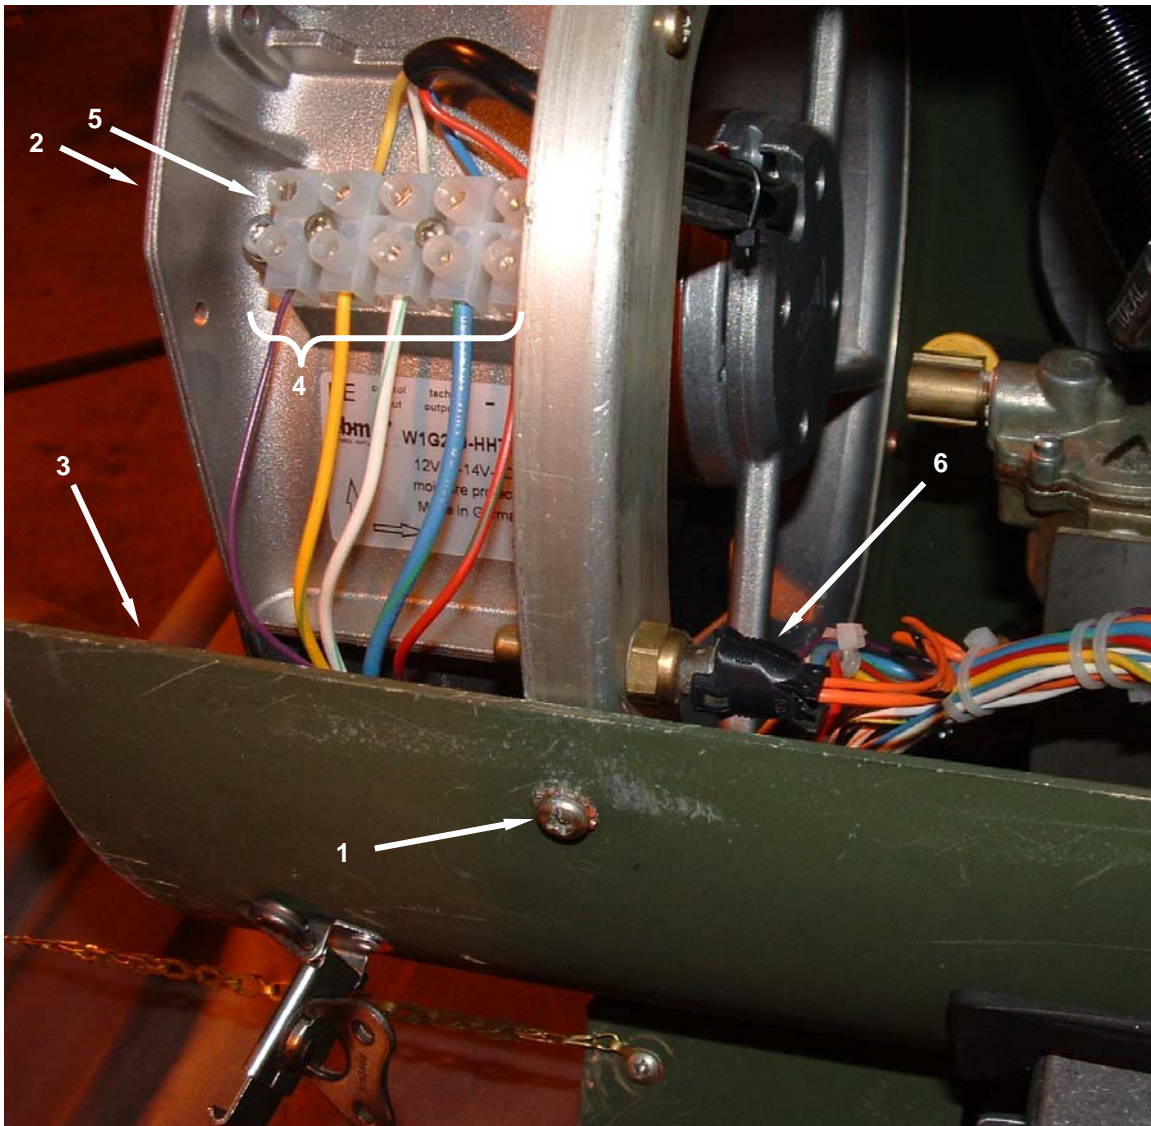

Figure 3. Replace the Electronic Box Assembly, Complete with Wire Harness – Remove the Heated Air Blower (Continued).
3. Remove three screws (**Figure 3, Item 1**) that secure the heated air blower assembly (**Figure 3, Item 2**) to lower assembly (**Figure 3, Item 3**).
4. Tag wires (**Figure 3, Item 4**) on both sides of terminal connector (**Figure 3, Item 5**) to ensure proper replacement.
5. Loosen terminal screws inside the air blower assembly connectors (**Figure 3, Item 5**); disconnect wires (**Figure 3, Item 4**) from heated air blower assembly. Pull wires from the heated air blower assembly (**Figure 3, Item 2**).
6. Disconnect the inlet air temperature sensor (**Figure 3, Item 6**).
7. Remove the heated air blower assembly (**Figure 3, Item 2**).